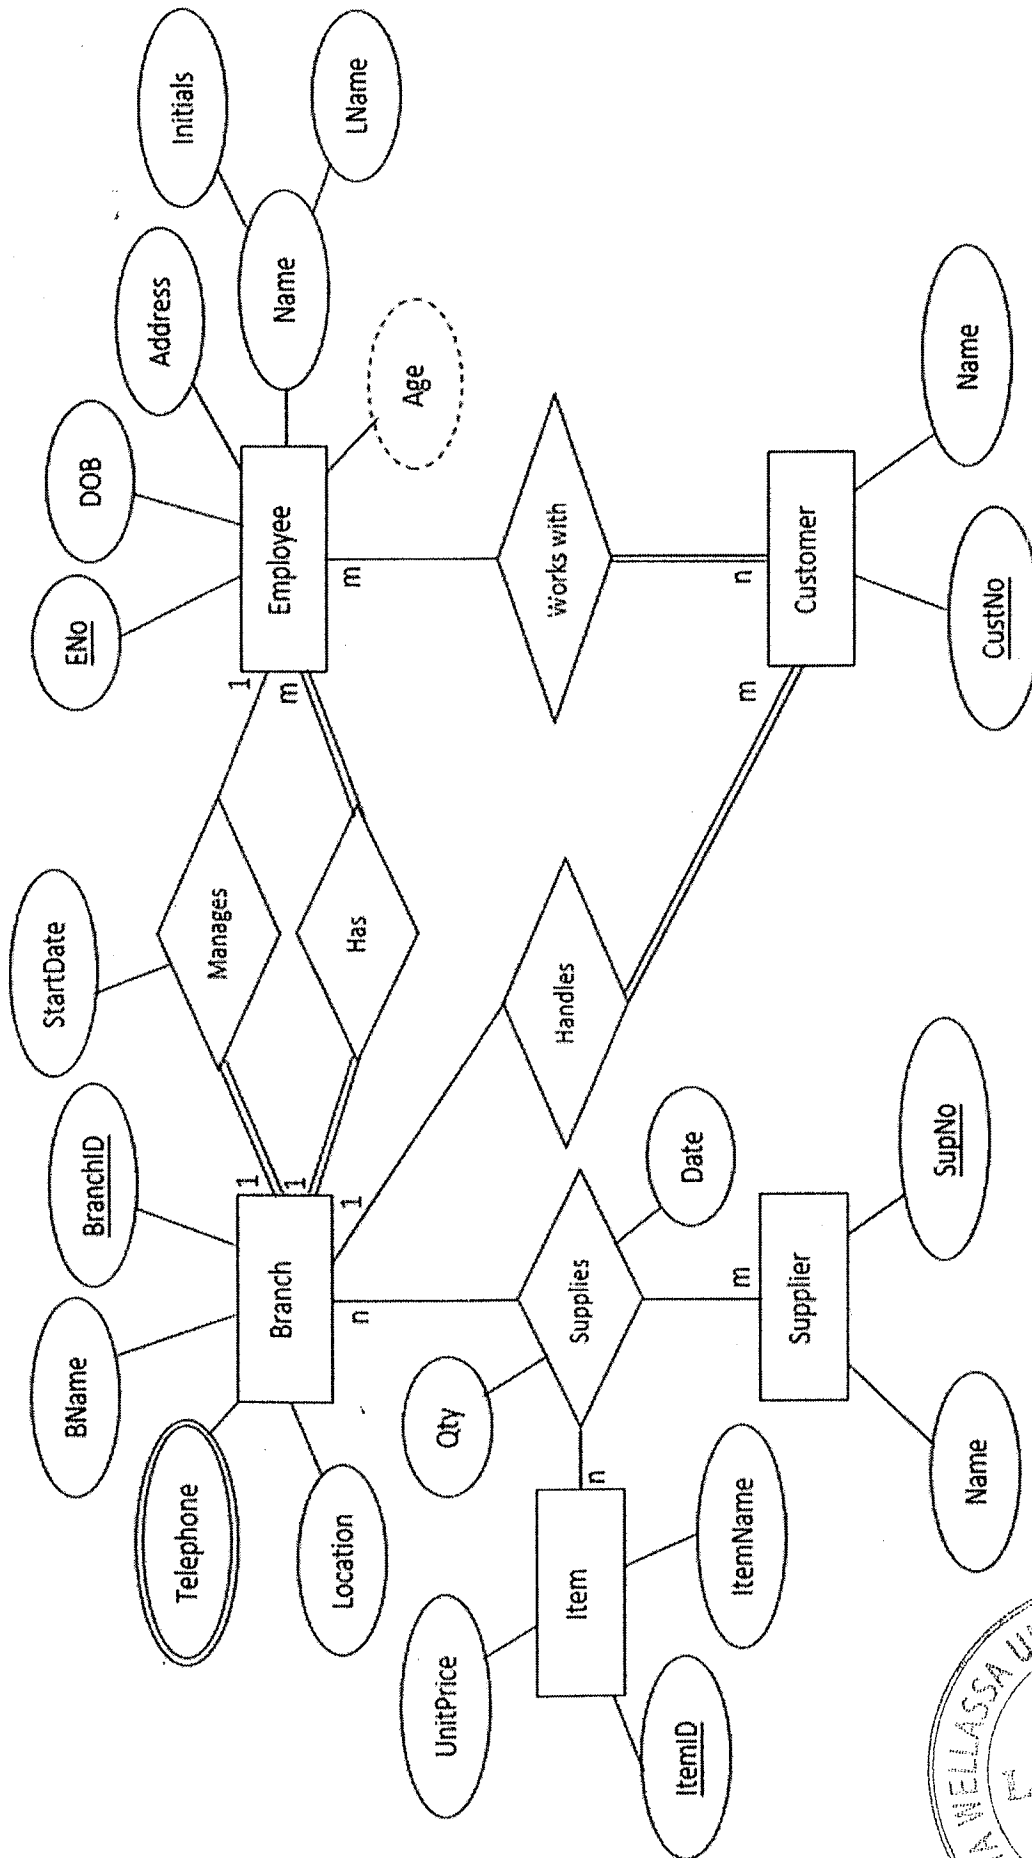

Figure 1: ER diagram of a company scenario
- e. Derive the relational schema corresponding to the ER diagram of a company scenario given in the Figure 1 (Page 3). (10 mark)